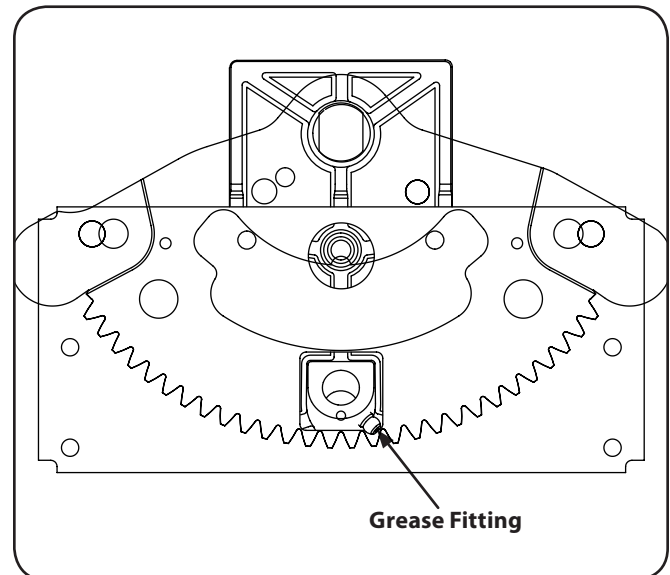

Figure 6-7
1. Working beneath the left side of the tractor frame, locate the lube fitting near the rear of the steering housing. See Fig 6-7.